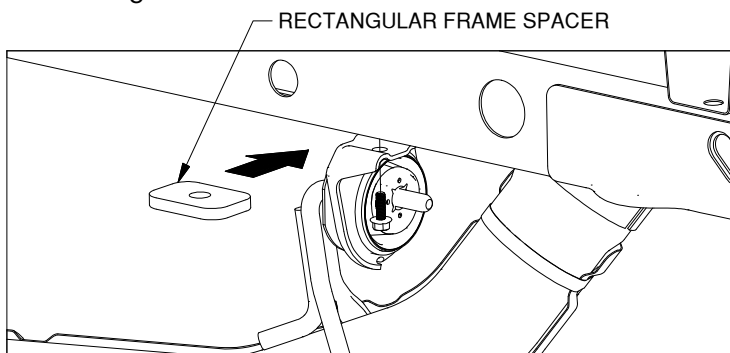

Figure B6: View looking into passenger side wheel well.
5. **Install exhaust spacer (optional).** Reattach the exhaust bracket if it was previously lowered. If additional clearance is needed between the exhaust and the rear cross member, an extra rectangular frame spacer has been included for lowering the exhaust bracket. Loosen the top cap screw (10mm socket) on the rear exhaust bracket. Remove the lower cap screw. Lower the bracket and place the spacer between the bracket and the bottom of the frame as shown and secure the bracket to the frame, see Figure B6.